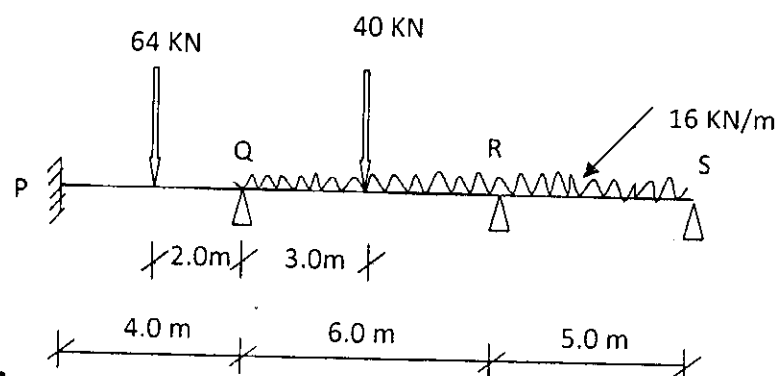

Fig. 2 Continuous Beam Problem
- Analyse the continuous beam as shown in Fig.2 by **Moment Distribution Method** and draw the final bending moment and shear force diagram. $E = 2.5 \times 10^4$ MPa. The depth of beams PQ, QR, and RS are 250 mm, 450 mm & 350 mm respectively. The width of all the beams are 250 mm.